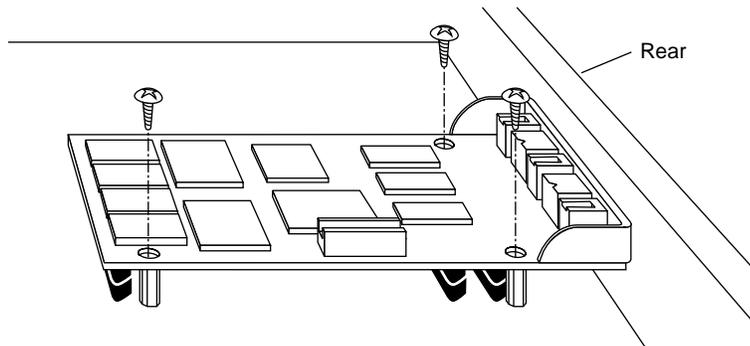

Figure 1-29 Reinstalling the GIO Option Board
- Using a Phillips screwdriver, insert and tighten the screws you removed earlier to connect the GIO option board to the graphics board, as shown in Figure 1-29. As you tighten the screws, alternate among them so that the board is connected evenly.